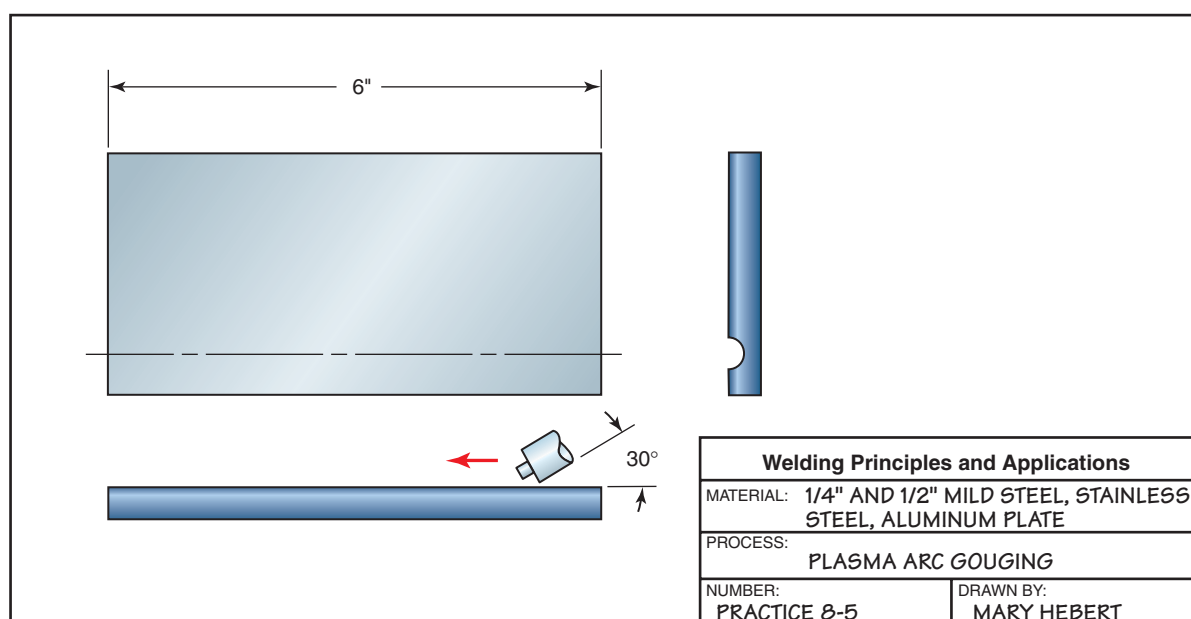

Figure 7.35 Plasma arc gouging
1. Starting at one end of the piece of metal, hold the torch as close as possible to a 30° angle, Figure 7.35.